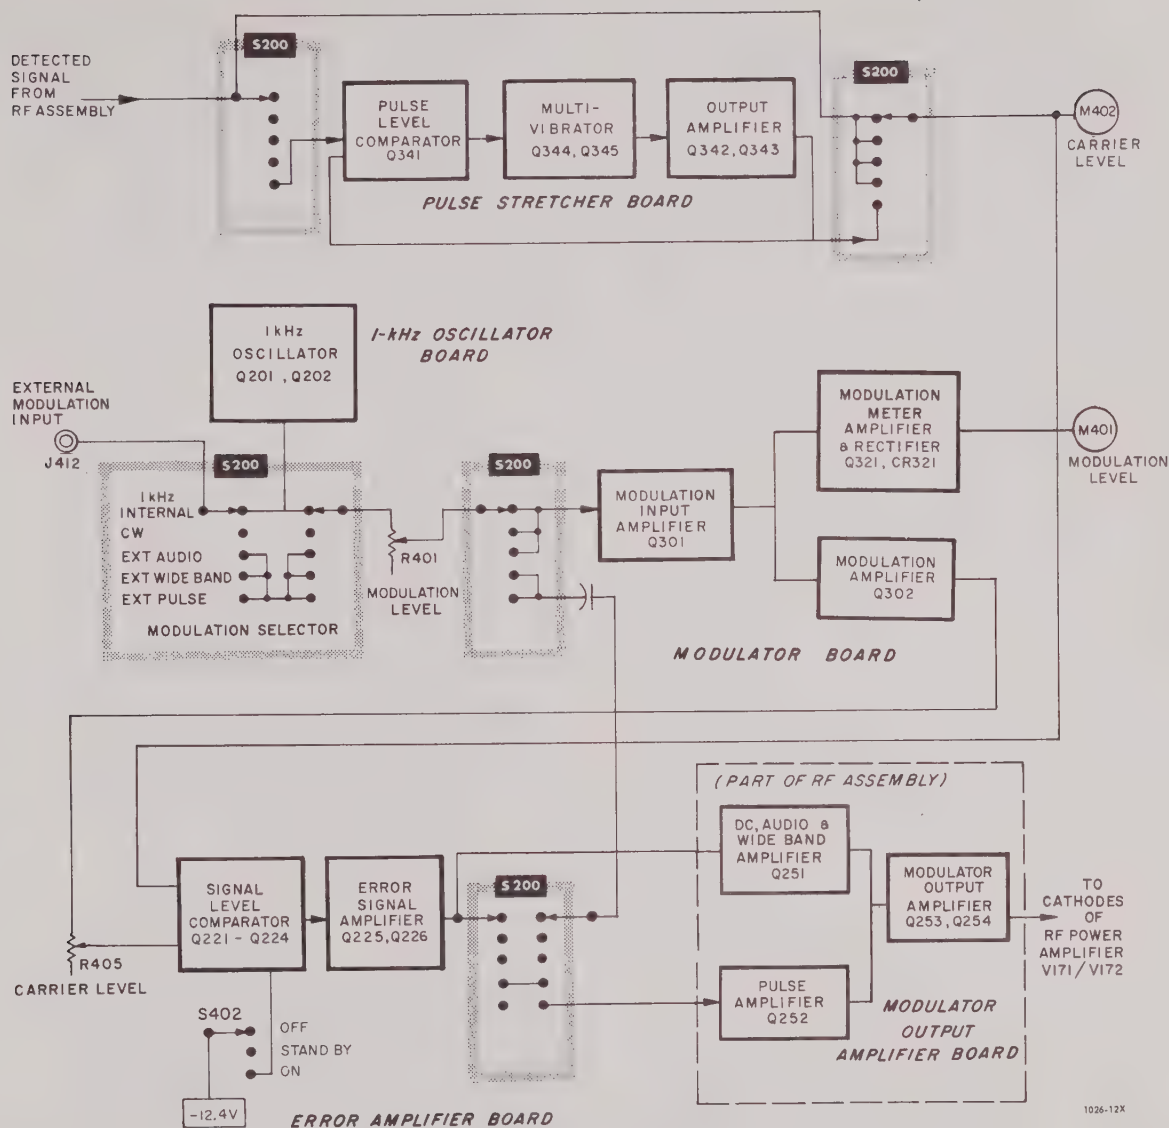

Figure 4-3. Block diagram of Modulator Assembly.
The modulator output amplifier (Figure 4-3) is also located within the rf assembly to facilitate the filtering required for leakage.
4.3.1 GENERAL (Figures 4-3 and 6-3).